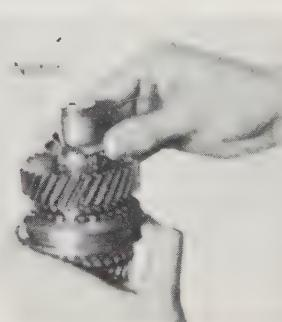

Fig. 6.17. Aligning the oil groove and notch of collar
- Fit the 4th drivegear, synchronizer ring and transmission mainshaft collar, taking care to align the insert with the synchronizer ring groove. Match the oil groove end of the 4th drivegear bushing with the large notch of the mainshaft collar, as shown in Fig. 6.17.